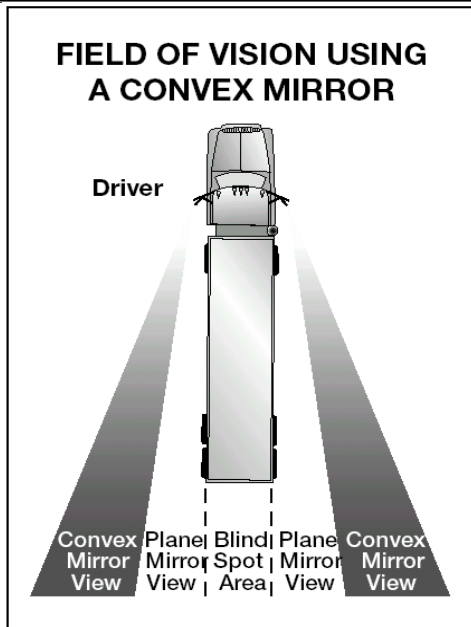

Figure 2.7
- ☐ Many large vehicles have curved (convex, "fisheye," "spot," "bugeye") mirrors that show a wider area than flat mirrors. This is often helpful. But everything appears smaller in a convex mirror than it would if you were looking at it directly. Things also seem farther away than they really are. It's important to realize this and to allow for it. Figure 2.7 shows the field of vision using a convex mirror.